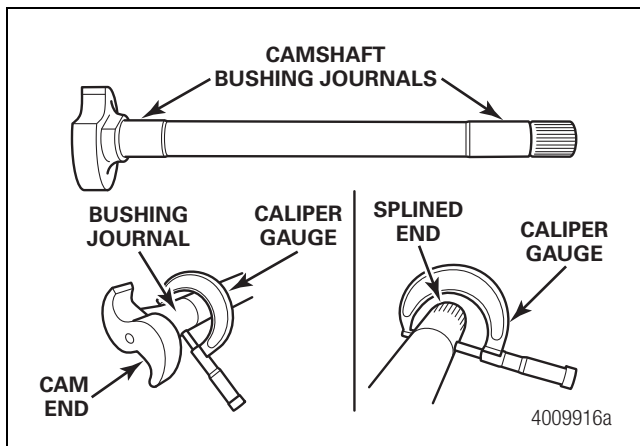

Figure 3.12
3. Use a 1-2-inch machinist's caliper to measure the bushing journals on each camshaft. Take the measurement in multiple positions on the bushing journals as the camshaft and bushing may wear unevenly. Camshaft journal diameter must be no less than 1.490-inches (37.846 mm). Figure 3.12.